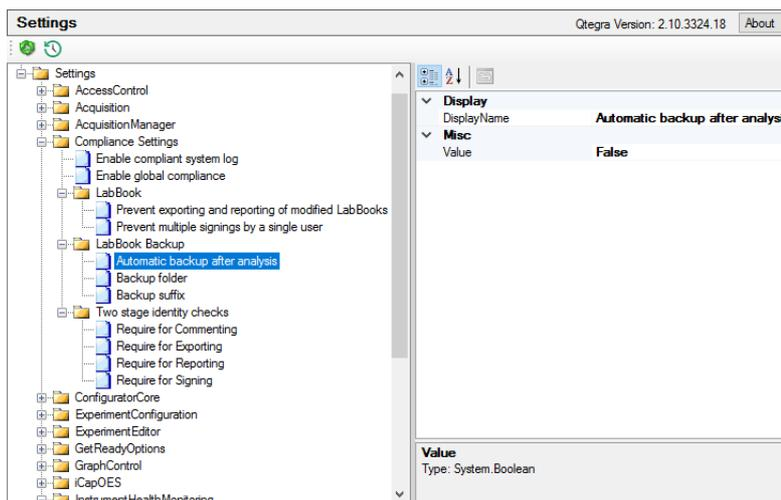

Figure 14-73. Configurator Settings for Automatic LabBook backup
2. Expand the LabBook Backup tree view item and select Automatic backup after analysis, see Figure 14-73.